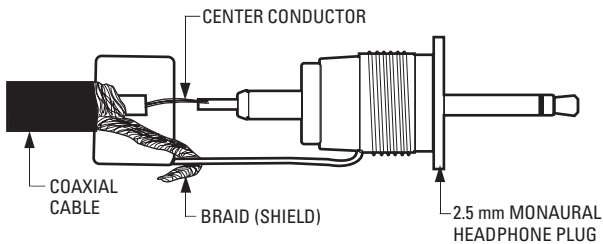

Figure 14. Attaching the 2.5 mm Monaural Headphone Plug
2. Attach the 2.5 mm monaural plug to the other end of the coaxial cable (refer to Figure 14):